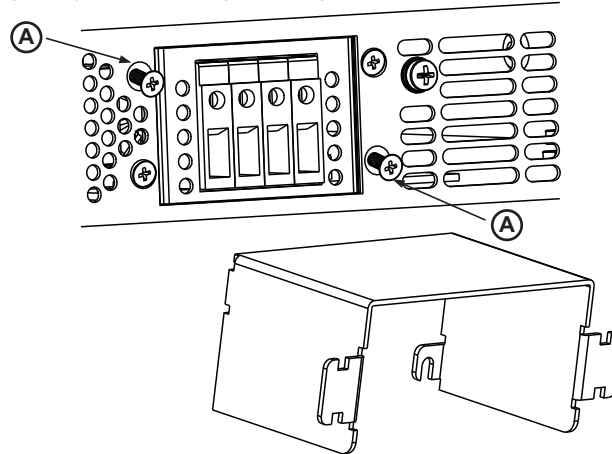

Fig.3-8: Shield assembly
4. Loosen the two chassis screws marked "A" halfway as shown in Fig.3-8.
5. Assemble the protective shield to the chassis and tighten the two screws to fix the shield to the chassis (see Fig.3-8). Screws tightening torque: 4.8-5.3 Lb-inch.